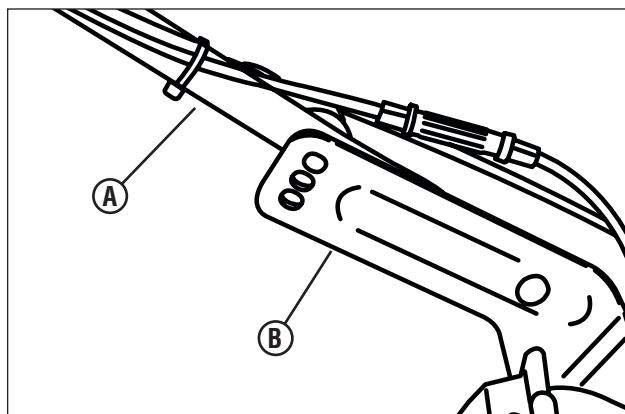

Figure 5: Adjusting the handle height
1. Remove the knobs and carriage bolts securing the lower handle (**A**, **Figure 5**) to the mounting brackets (**B**).